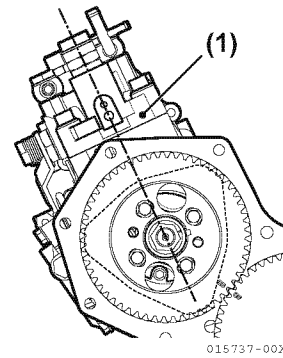
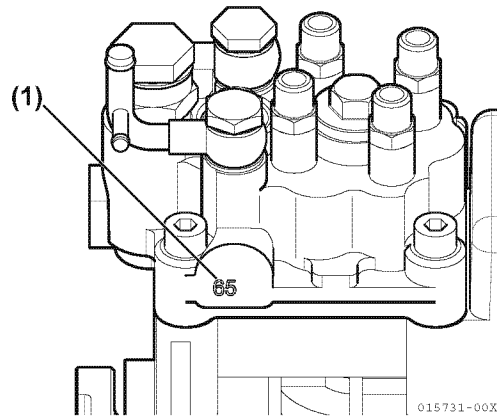

Figure 6-52
Figure 6-53
1. Locate and record the fuel injection pump timing index number (**Figure 6-53, (1)**) stamped into the boss on the engine side of the fuel injection pump housing (**Figure 6-52, (1)**).